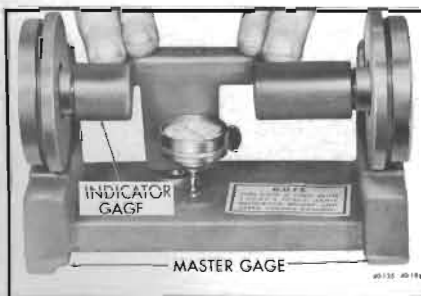

Figure 40-181—Zeroing Pinion Setting Gauge
3. Place the indicator gage on the master gage so that the spring-loaded center is engaged in the centering hole corresponding to the indicator pad "b". See Figure 40-181.